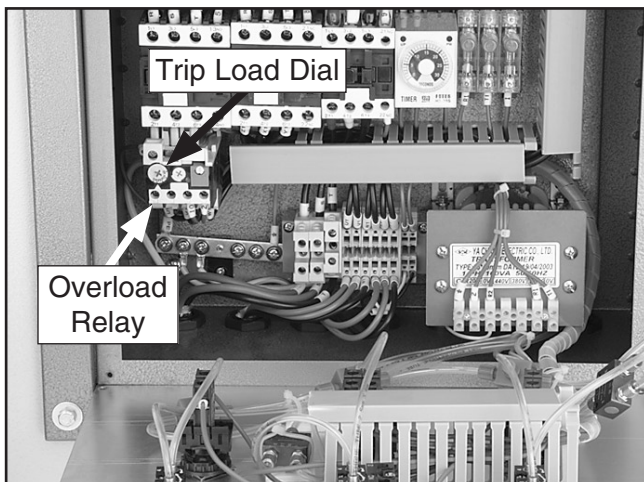

Figure 4. Model G0549 overload relay inside the electrical panel.
2. Open the electrical panel, then replace the overload relay with the one from the 440V conversion kit (see **Figure 4**).
4. Make sure the trip load dial of the overload relay is set at 12 amps (see **Figure 4**).